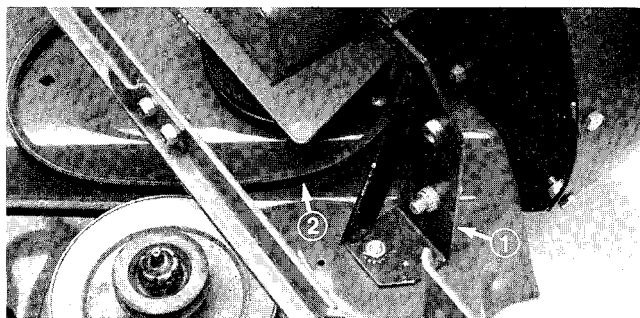
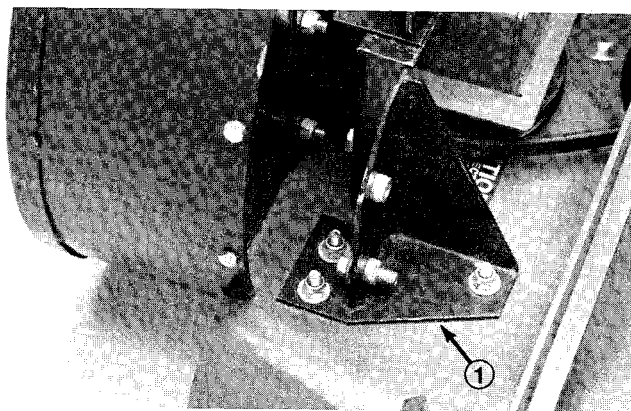

Figure 9
Figure 10
18. Reposition blower and mounting brackets onto deck aligning mounting holes. Route belt around blower pulley before securing to deck. Secure rear bracket and rear baffle to deck with (2) 5/16-18x5/8" lg. carriage bolts and locknuts (Fig. 9). Secure front bracket and front baffle to deck with (3) 5/16-18x7/8" lg. carriage bolts and locknuts (Fig. 10).